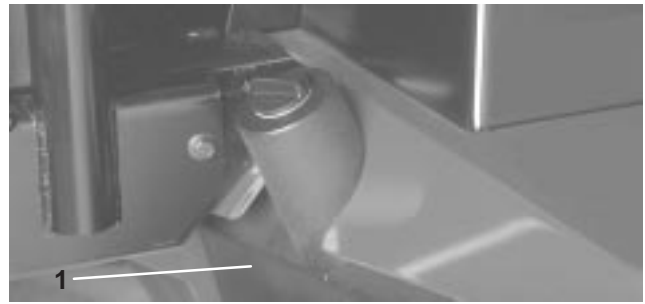

Figure 57
2. Remove drain plug from bottom of reservoir (Fig. 57) and let hydraulic fluid flow into drain pan. Install and tighten plug when hydraulic fluid stops draining.